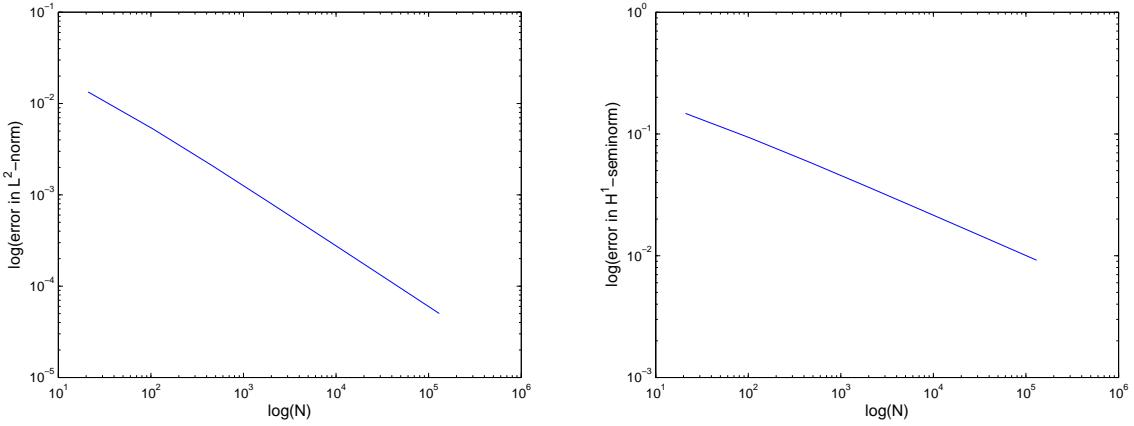

Figure 3.7: Convergence plots for subproblem (3.2l).
**Solution:** See Fig.3.7 for the convergence plots. The convergence rates with respect to the number of degrees of freedom are 0.6436 for the  $L^2$ -norm and 0.3195 for the  $H^1$ -seminorm, corresponding to rates of around 1.29 and 0.64 respectively with respect to the meshsize  $h$ . The reason for these lower rates is that the gradient of the solution has a singularity at the origin. Comparing with the results with the linear finite element discretization, we cannot see a significant improvement in the convergence rates because, since the solution is not smooth enough, increasing the polynomial order does not lead to an improvement of the convergence.